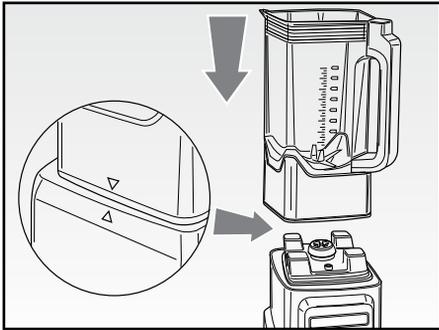
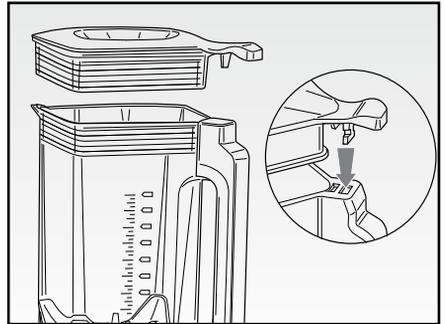

Fig. 2
Fig. 3
- Position the goblet (C) on the motor body (E), always with the handle in the position shown in Fig. 2, matching the arrow on the goblet side with the one on the motor body.
- Cut fruit and vegetable into small pieces and place them into the goblet (C) adding water or milk. The liquid ingredients must not exceed 1200 ml.
- Position the lid (B) on the goblet (C) so that the lid hook engages with the goblet handle and press it slightly downwards until it locks in place (Fig. 3).